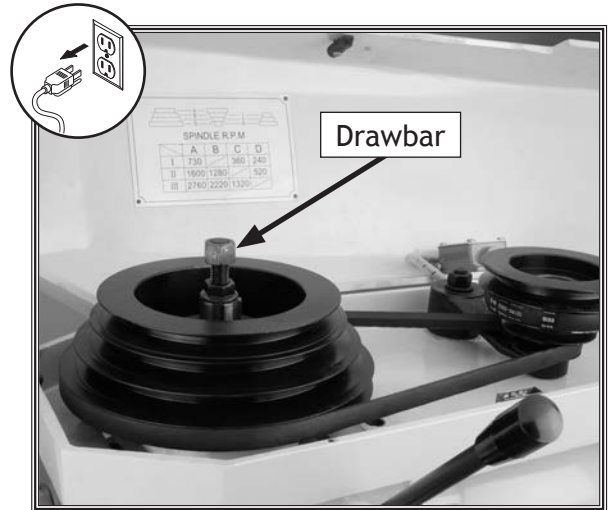

Figure 26. Drawbar location.
6. Use a wrench to tighten the drawbar (see **Figure 26**) until the tool is secure in the spindle.